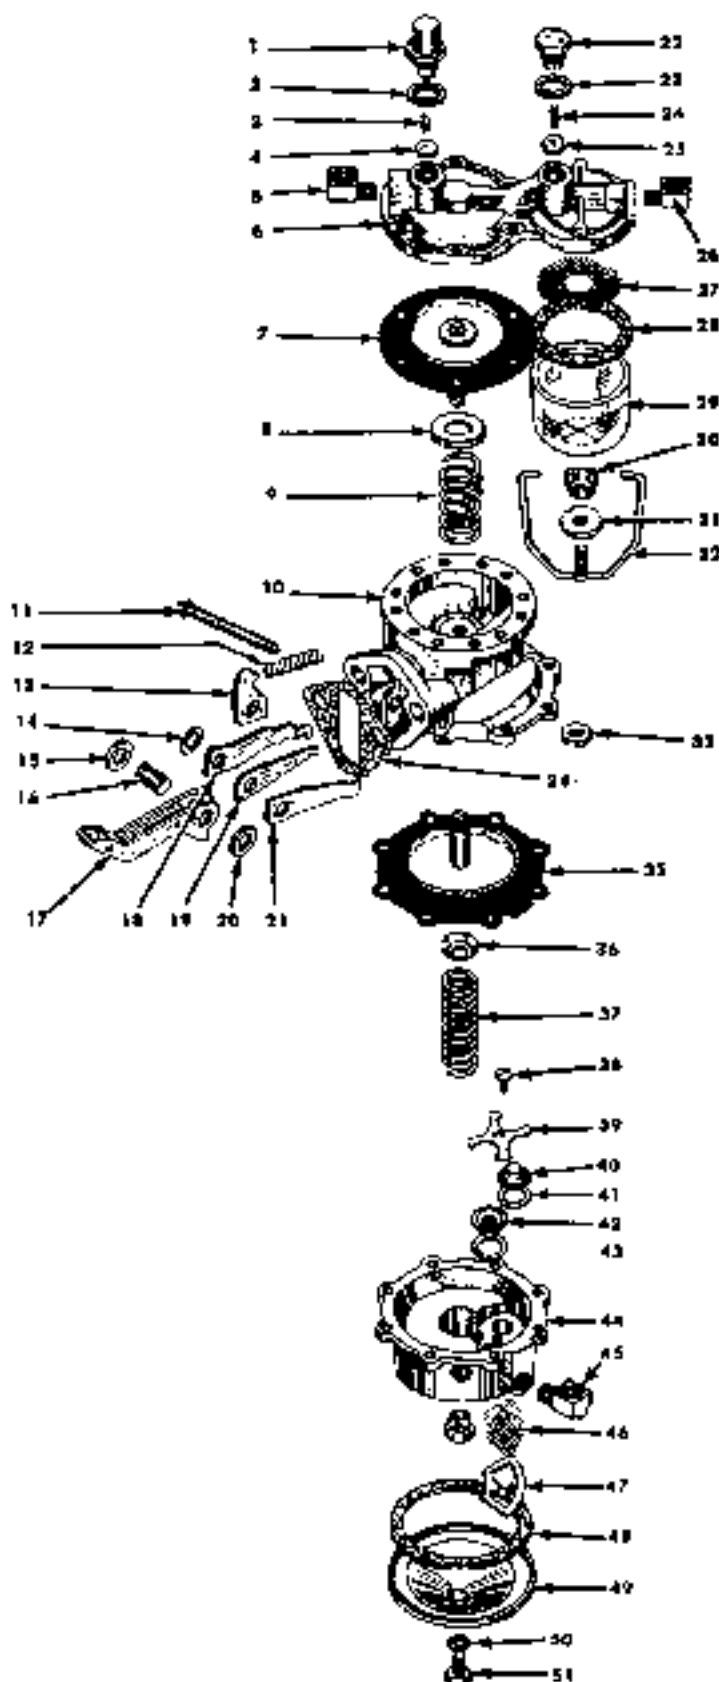

FIG. 392 PARTS OF THE FUEL AND VACUUM PUMP
To disassemble the rocker arm assembly, remove the steel bushing (16, Fig. 392). This allows the removal of the vacuum links (18 and 21), fuel link (19), link spacer (13), link washers (14), and the two outer spacer washers (15 and 20).
Remove the vacuum section cover plate screw (51, Fig. 392) with gasket (50). Remove the cover plate (49), gasket (48), and screen retainer (47) and screen (46).
Assemble the link spacer (13, Fig. 392) over the fuel link (19). Place the vacuum links (18 and 21) on each side of the fuel link. The hook ends of the vacuum links should come together so that they surround the fuel link and all link hooks should point in
Place a drop of light oil on outlet valve (4, Fig. 392) and install the valve in the chamber over the diaphragm. Insert the valve spring (3) in the air dome (1). Install the dome assembly and gasket (2)